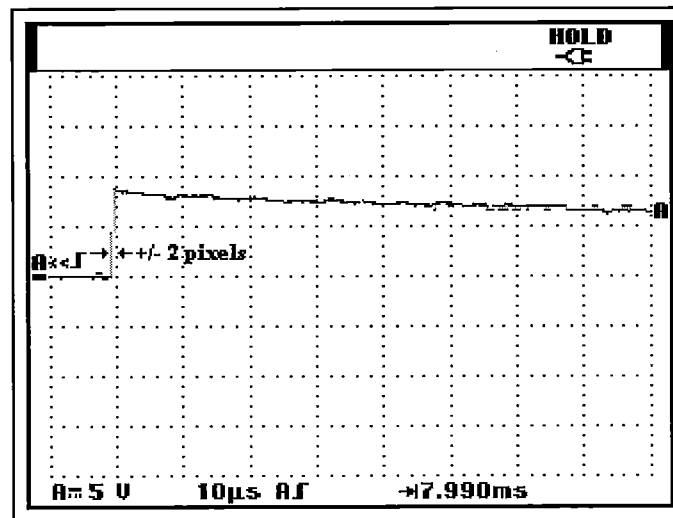

Figure 4-6. Time Base Verification
5. Examine the rising edge of the time marker pulse at the height of the trigger level indicator top. Verify that the rising edge is at the second grid line from the left. The allowed deviation is  $\pm 2$  pixels, see Figure 4-6.
9. Examine the rising edge of the time marker pulse at the vertical height of the trigger level indicator top. Verify that the rising edge is at the second grid line from the left. The allowed deviation is  $\pm 2$  pixels, see Figure 4-6.